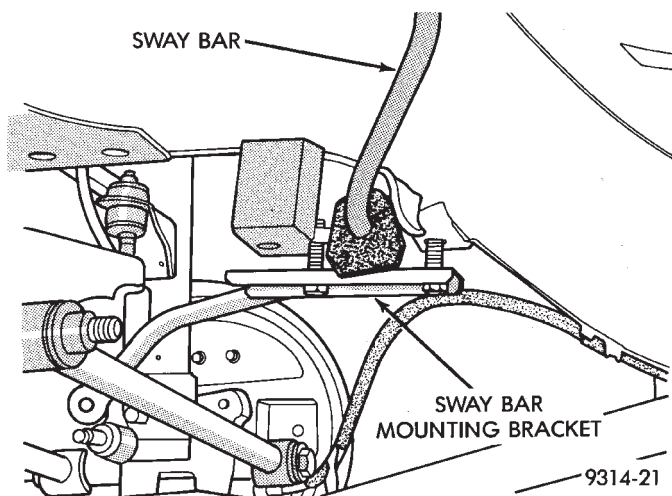

Fig. 48 Holding Sway Bar In Place
- (16) To prevent sway bar from falling down, install sway bar mounting brackets with bolts finger tight (Fig. 48).